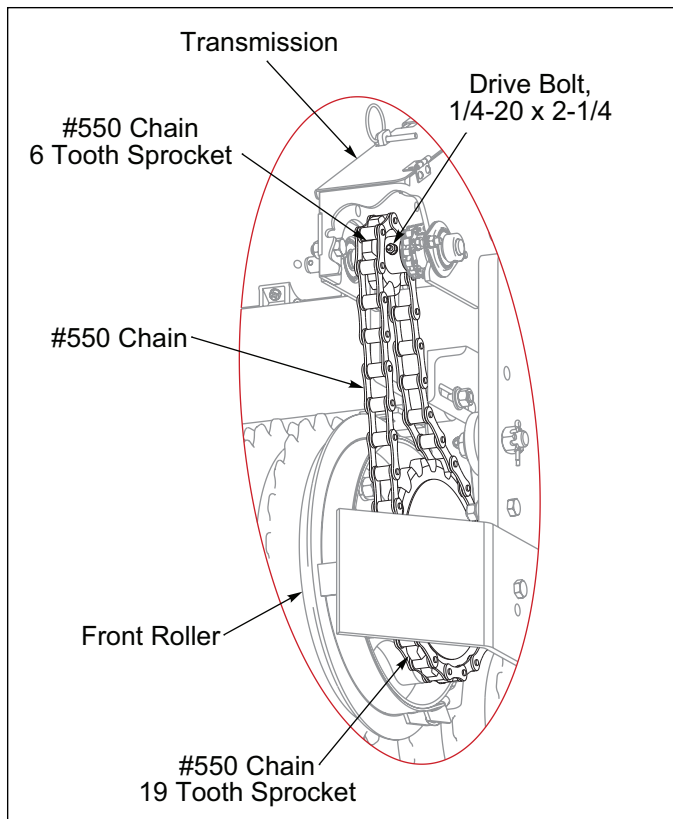

Figure 3-12: Transmission Drive Bolt
Transmission Drive Bolt (1/4-20 x 2-1/4) from the #550 Chain 13 Tooth Sprocket, must be removed for Calibration and can also be removed if it is desired to use the Seeder as a Pulverizer, Rollers only. (The Acre Meter will not register when the Bolt is removed). See **Figure 3-12**.
1. Remove Transmission Drive Bolt (1/4-20 x 2-1/4) from the #550 Chain 6 Tooth Sprocket. See **Figure 3-12**.